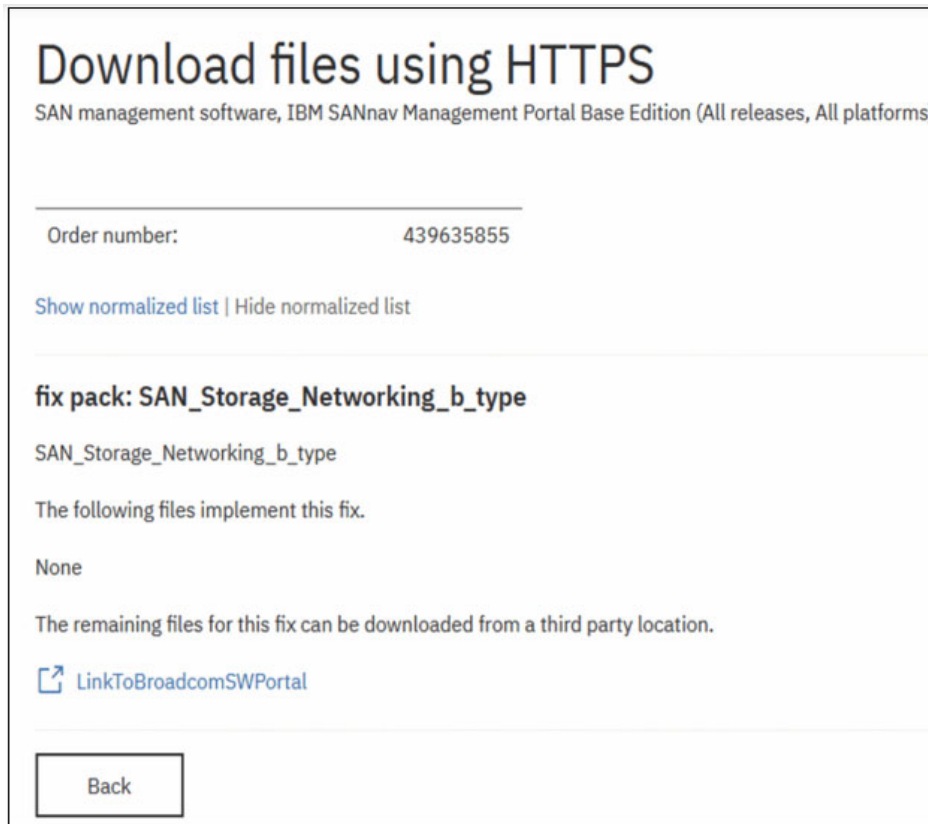

Figure 9-6 Link to the Broadcom software portal
8. Click **Continue**. You see a customized link to the Broadcom software portal (Figure 9-6 on page 155).